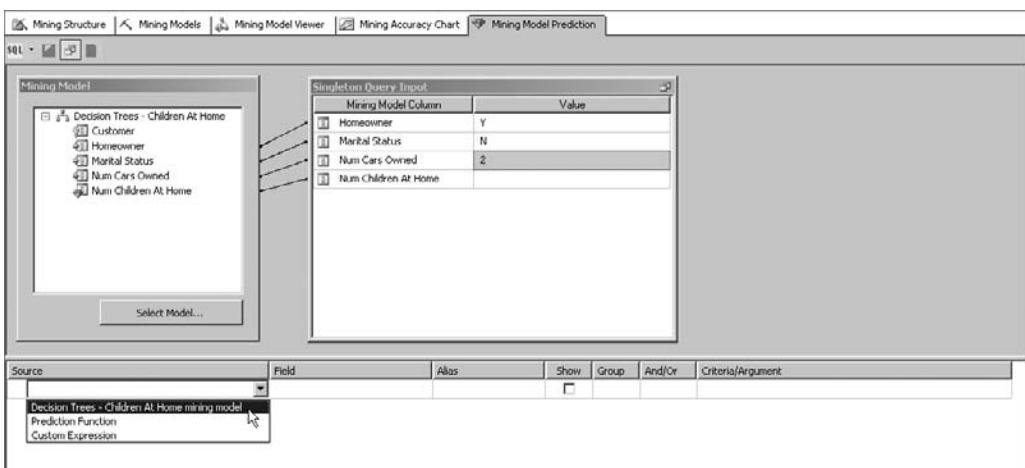

Figure 15-13 Selecting the columns in the singleton query result set
9. Now select the columns in the result set. In the first row under the Source column, select Decision Trees - Children At Home mining model from the drop-down list. This is shown in Figure 15-13. Num Children At Home is selected by default in the Field column because it is the only predictable in the mining model.